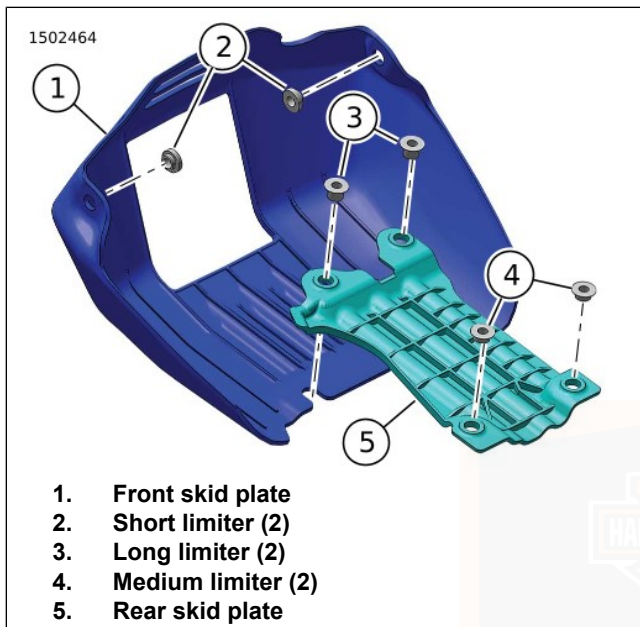

Figure 76. Two Piece Skid Plate - Front and Rear Limiters
1. Figure 76 Verify that both long and medium limiters (3 & 4) are in place.
1. Figure 76 Verify that short limiters (2) are in place.